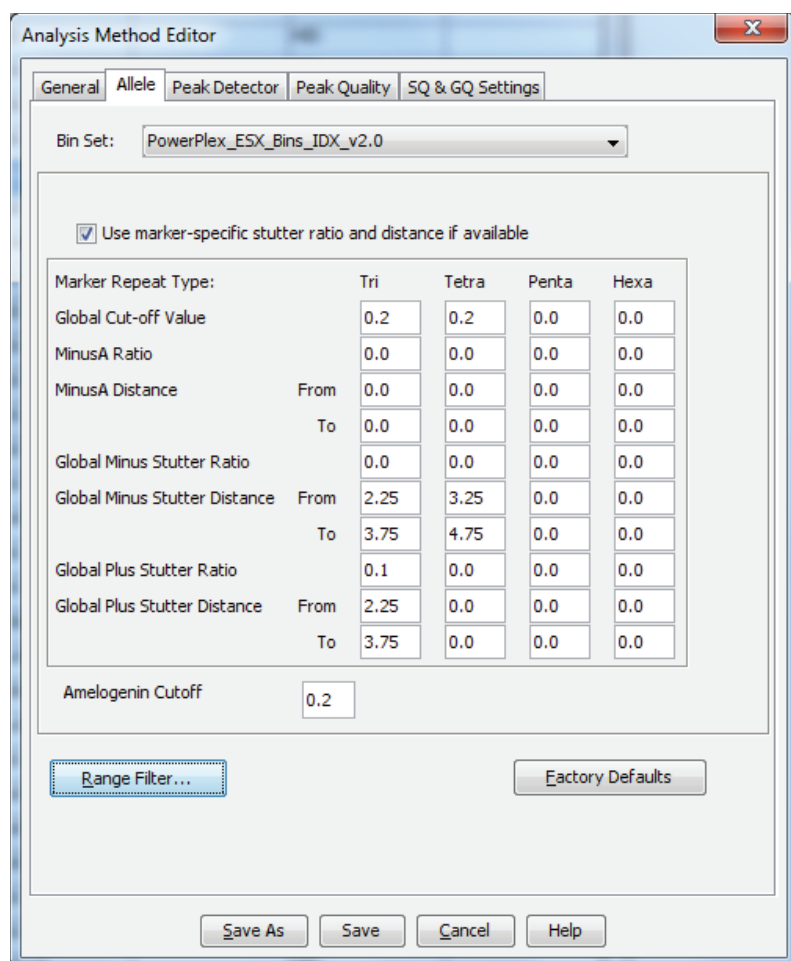

Figure 25. The GeneMapper® ID-X Allele tab with settings for using a 20% peak filter.
6. Select the 'Allele' tab (Figure 25).
8. Ensure that the 'Use marker-specific stutter ratio and distance if available' box is checked. Doing this will assign locus-specific stutter filters and distances from the imported stutter file. Ensure that the appropriate global filter is applied to this analysis method. For example, for a 20% filter, enter "0.20" for the Amelogenin Cutoff and Global Cutoff Value for Tri and Tetra repeats (Figure 25). You may need to optimize these settings. In-house validation should be performed.